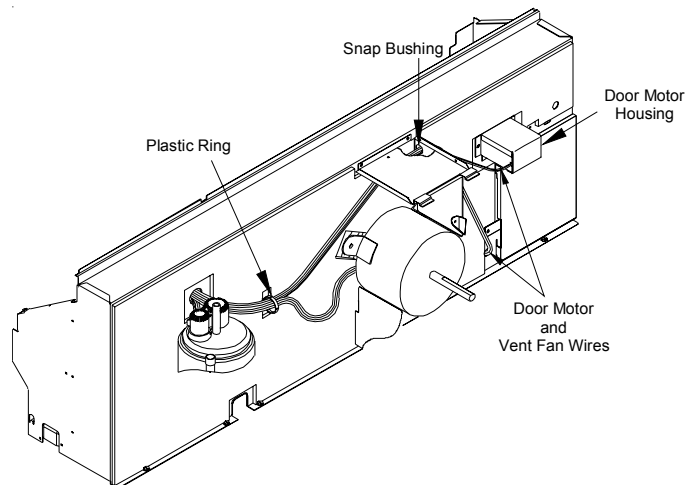

Figure 12
8. Route the door motor and vent fan (PVK kits only) wires through the plastic grommet in the sheet metal condenser wing, through the plastic ring, and then through the hole in the partition panel where the compressor wires are routed through the panel. **NOTE:** The permagum may have to be removed to feed the wires through the partition panel. When finished routing wires through the panel, make sure wires have no slack and replace the permagum back into place to prevent air leaks. (Figure 12).